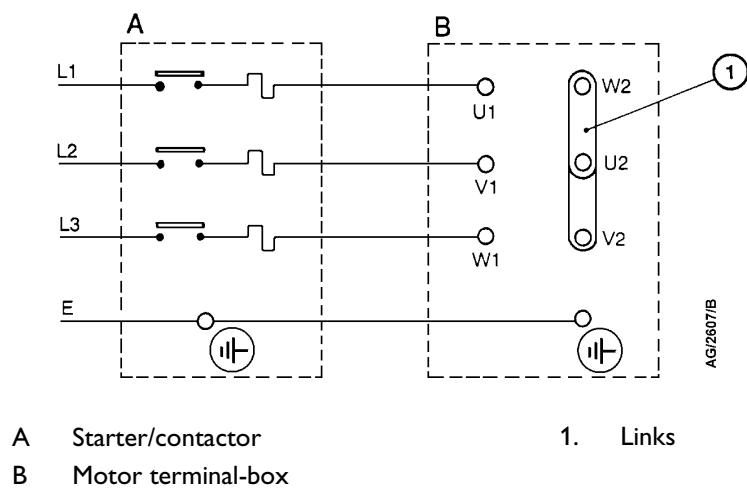

Figure 6 - Three-phase electrical connections: 380-460 V
- For 380-460 V electrical supplies, the links must be configured as shown in Figure 6.